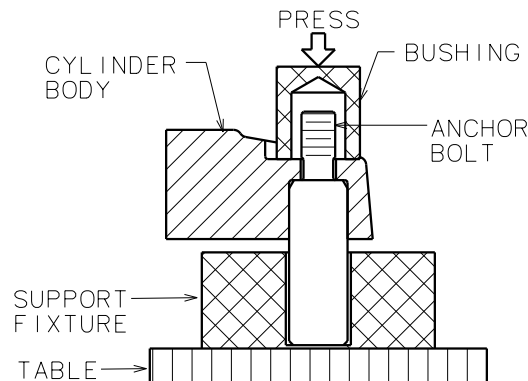

Figure 305 - Anchor Bolt Installation
(1) Reassembly Procedures
- (b) If anchor bolts were removed, install anchor bolts using an arbor press and a holding fixture. Refer to Figure 305. Insure that bolt is **perpendicular** to the cylinder and **parallel** to one another. Install washers and nuts. Dry torque nuts to 90 inch-pounds (7.9 Nm). The torque to overcome the locking feature of the nut must be added to the above torque level to obtain the true torque.